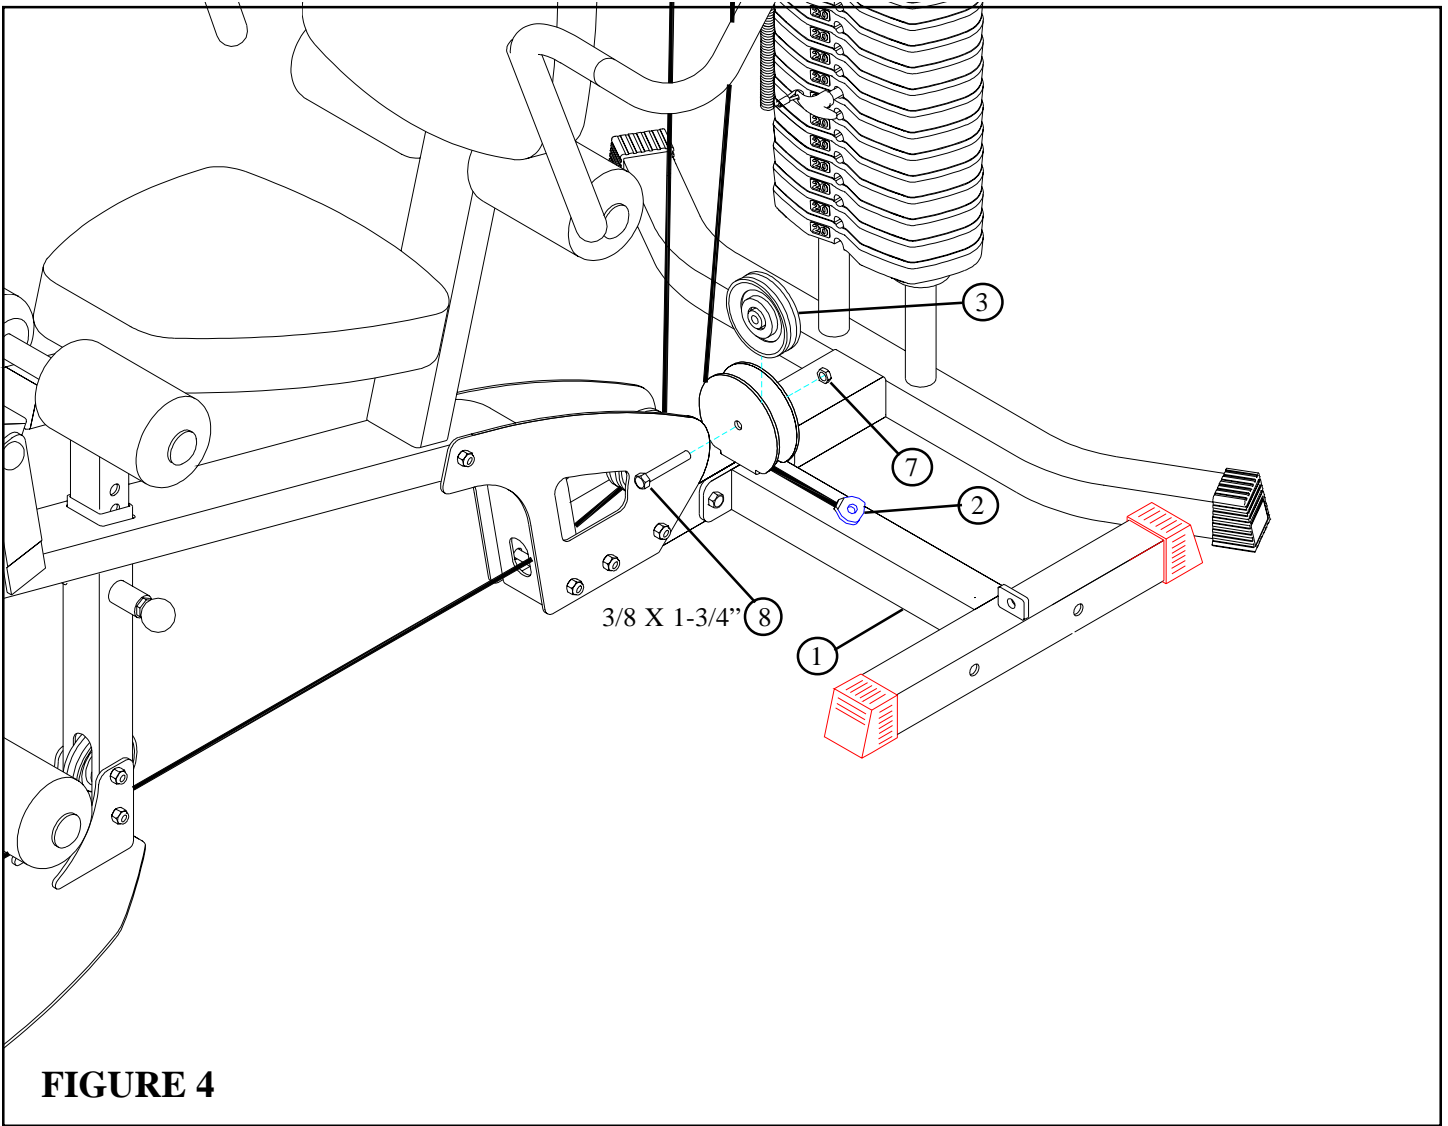

**FIGURE 3**
- Assemble the new LEG CABLE (2) using the previously removed bolts as shown in FIGURE 3. (NOTE: Make sure the LEG CABLE is running in the grooves of all pulleys and above the retaining bolts.)